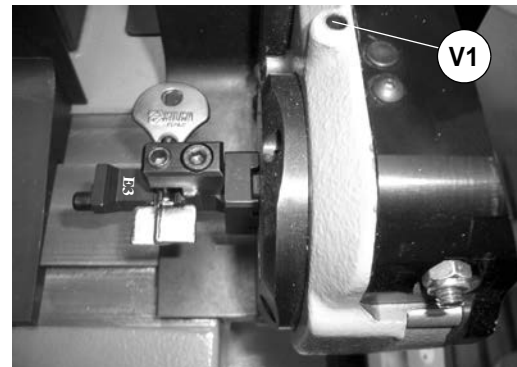
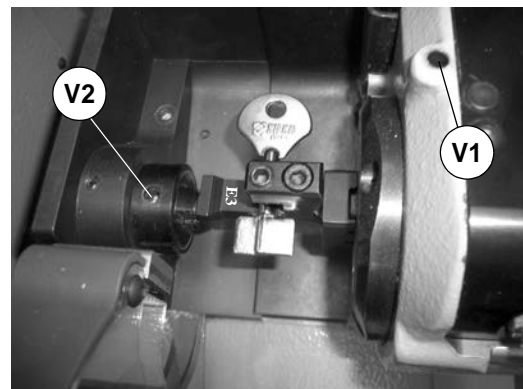

Fig. 43
Fig. 44
- 2) Take the 'T' wrench (T4) from its seat and fit into the screw (V1), then loosen until the jaws are fully open. At the end of the operation do not remove the 'T' wrench from the screw (fig. 43).
- 3) Fit the key blank into the **E3** adapter, paying attention to its position (fig.), then tighten the screw (P).
- 6) Tighten the knob (T1). Use the 'T' wrench (T4) to tighten the screw (V1) first, then the screw (V2) (fig. 44). Replace the T wrench (T4) into its seat, lower the mobile safety shield and begin the process with START.